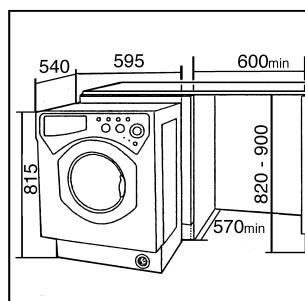

Fig.8
- Push the machine into the opening, aligning it with the cabinets (Fig.8).